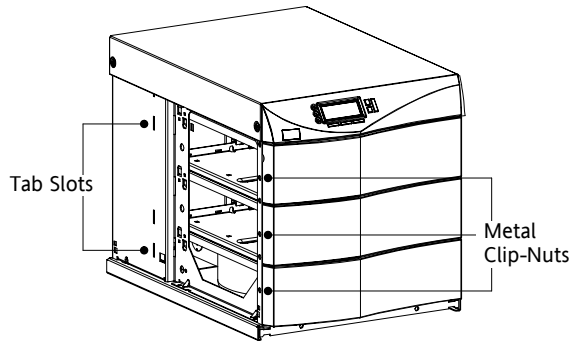

Figure 9. Metal Clip-Nut and Tab Slot Locations
4. Install three metal clip-nuts onto each side flange (6 clip-nuts on 6-slot cabinets) along the front of the UPS cabinet (see Figure 9).
Insert the two offset tabs on the rear edge of the ear into the matching tab slots on the cabinet side frame (see Figure 9). Pivot the ear forward until it is flush against the UPS cabinet side frame. Using three 1/4-20 × 1/2" Phillips-head bolts, screw the bolts into the metal clip-nuts installed in Step 4.